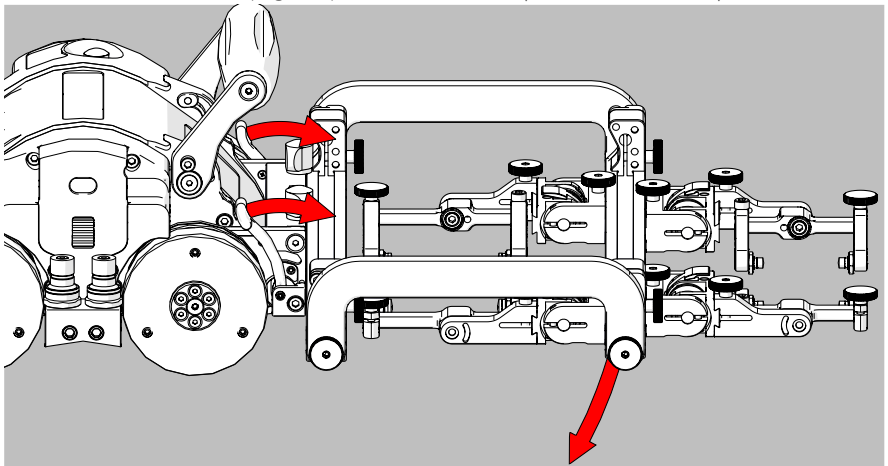
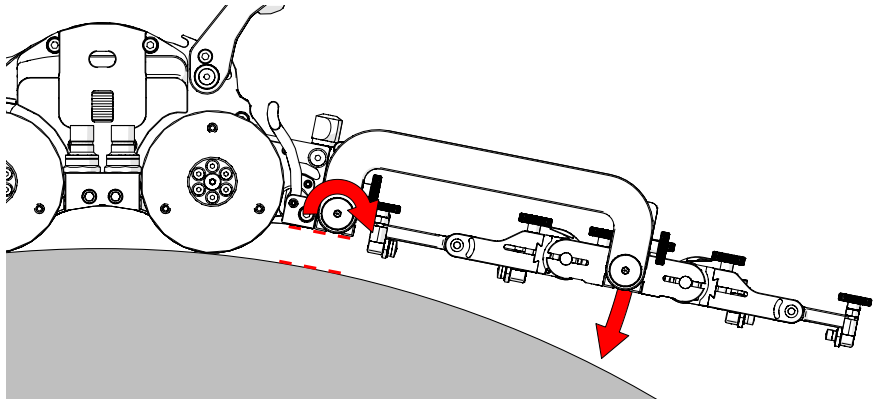

Fig. 139 - Align swivel mount with scan surface
Fig. 140 - Set rear rotational adjustment knob
4. Release the two swivel mount levers (Fig. 139) to position the swivel mount parallel to the scan surface (Fig. 140). When alignment with scan surface is achieved, lock the crawler swivel mount levers.
5. Loosen the rear rotational adjustment knob to lower the front frame bar of the low profile frame towards the inspection surface (Fig. 140).